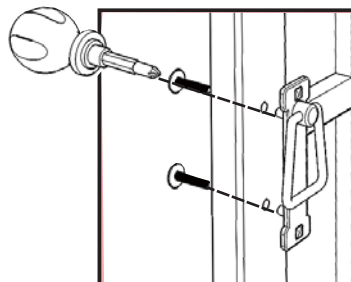

Figure 5
Assemble Pull Handles to Door (G), (H), (R) and (S) with Machine Screws. (see Figure 5)